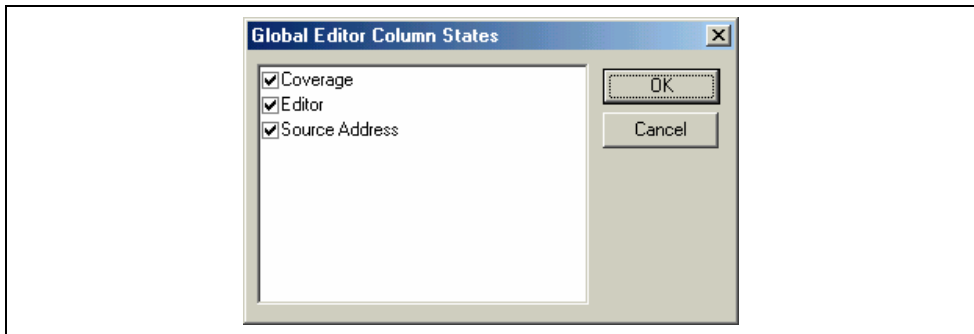

Figure 4.17: Global column state Dialog
3. The "Global Editor Column States" dialog is displayed (figure 4.17).